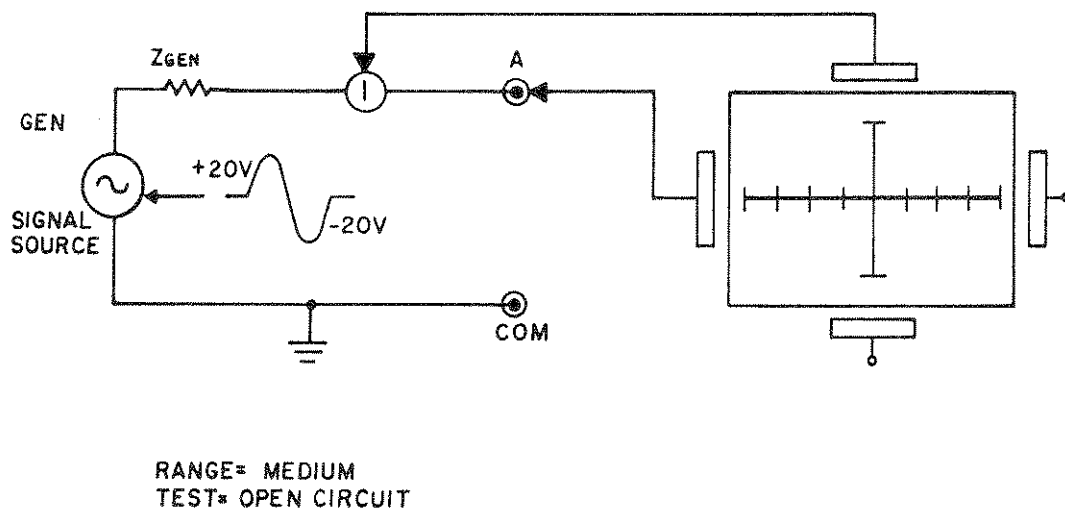

Figure 1-1. Electrical Equivalent of the Test Signal Generator
Figure 1-1 shows the electrical equivalent of the test signal generator within the tracker and how the current through and voltage drop across the test terminals provide vertical and horizontal deflection of the display. The 80Hz test signal is provided by the signal generator and its series impedance ( $Z_{gen}$ ). All current that passes through the test terminals to the device under test, also passes through a current sensing point (I). The vertical deflection plates receive deflection voltage from this current sensing point. The amount of deflection voltage provided to the vertical deflection plates is proportional to the amount of current flowing through the device under test.